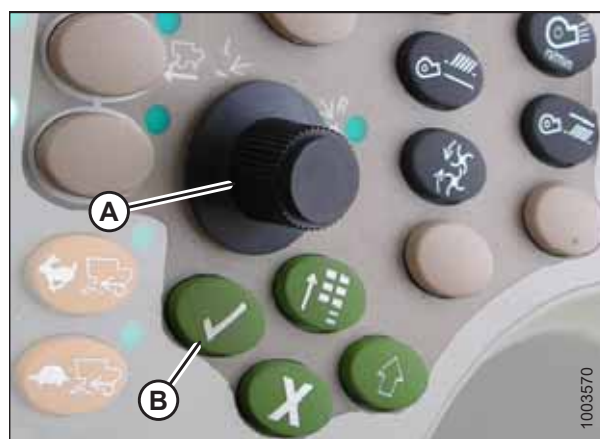

Figure 7.232: John Deere Combine Control Console
6. Select HEADER in box (A) by scrolling down to the box using the scroll knob, and then pressing the check mark button (knob and button are shown in Figure 7.232, page 247).
7. Scroll down to the lower right icon that resembles an arrow in a diamond (B) and press the check mark button to select it.